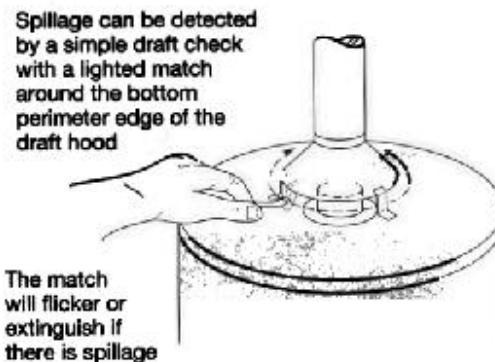

Figure 2 — Never leave a jobsite installation without doing a draft check on all appliances, both singly and together, with the burner(s) on.
- 7) Never leave a jobsite installation without doing a draft check on all appliances as shown in Fig. 2. If multiple appliances are involved, check each one individually (with the burner on), then put all the appliances in operation with all their burners on and proceed to check each one individually again. This is a good test to show if there is any backspillage (where one drafts but spills back through another instead of going up the vent) among any of the appliances.